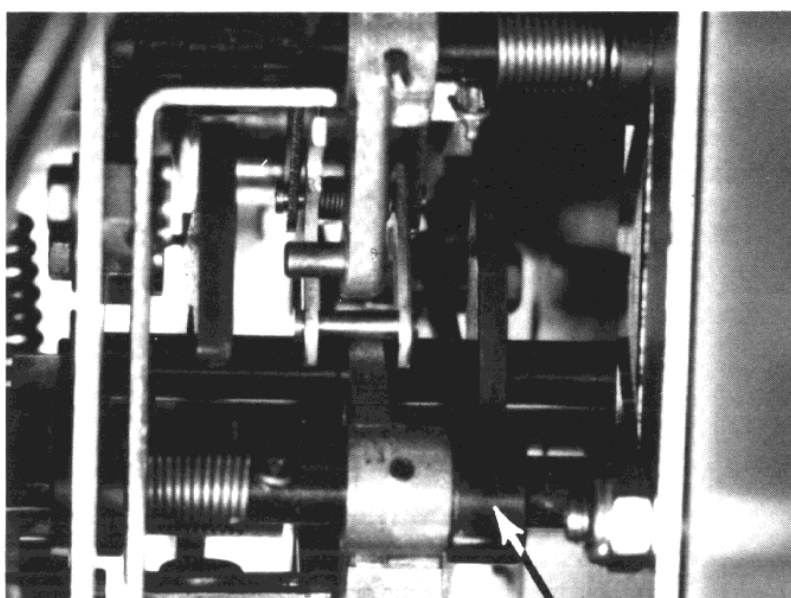
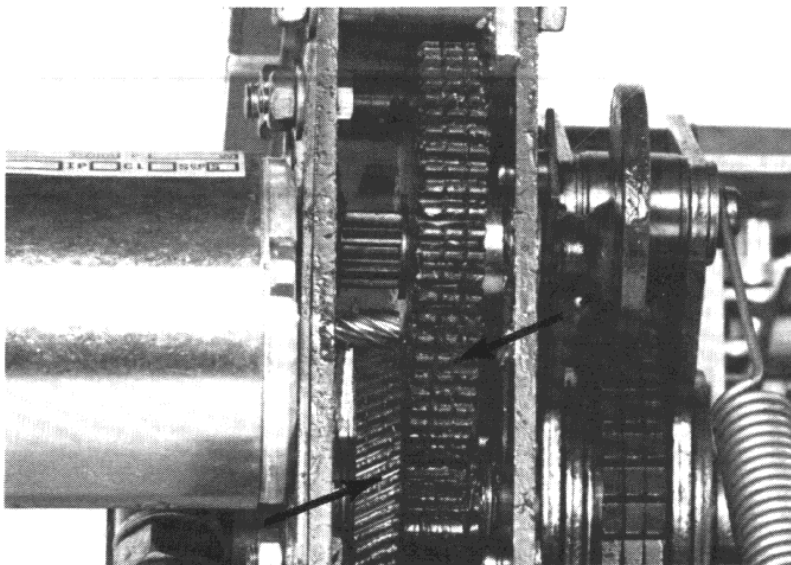

Figure 8: Lubrication — Close and Trip Latches
Figure 9: Lubrication — Motor Gears
- Step 3.** Lubricate the close and trip latch surfaces (figure 8) and mechanism charging gears (figure 9) using molybdenum disulfide grease.